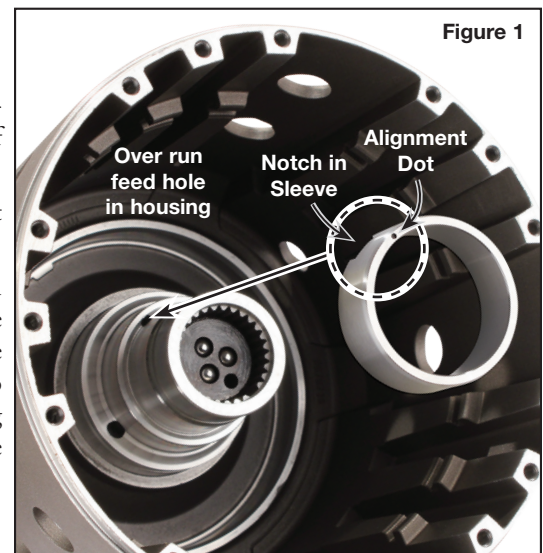

Figure 1
- Coat the inside of the sleeve with green Loctite® 609. Align the notch in the sleeve with the over run feed hole in the housing (**Figure 1**). Set the sleeve into position on the input drum, keeping the notch in the sleeve aligned with the over run feed hole in the housing.